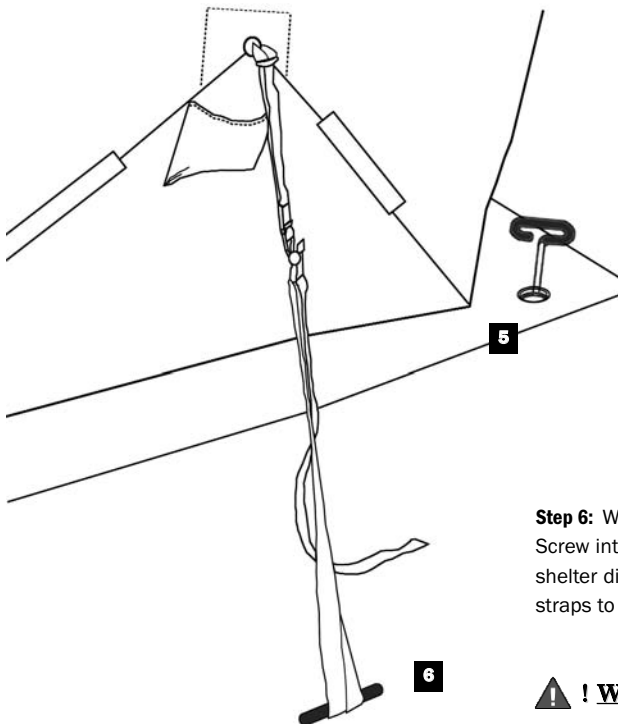

fig 4
Step 4: With an open palm, push center hub of roof. The tension will begin to lessen (**fig 4**).